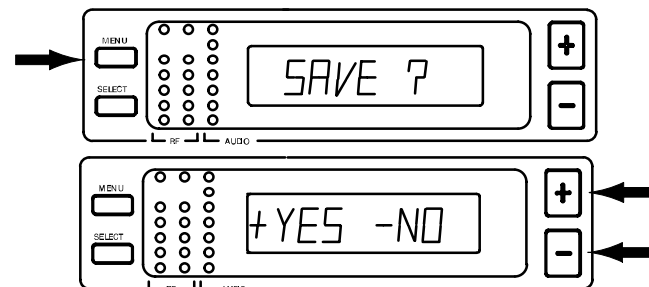

FIGURE 24
6. When the new name has been completely entered, press the MENU button. "SAVE?" will appear, followed by "+ YES – NO". Press the "+" button to save the new name and return to the Group/Channel/TV display. Press the "-" button to make more changes. See Figure 24.